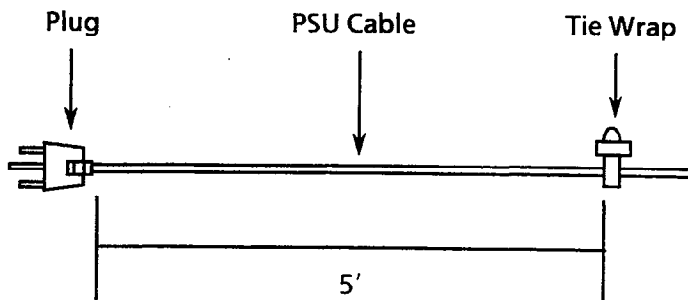

Figure 3-30 Securing the PSU Cable Using a Tie Wrap
2. Attach a tie wrap (locally provided) 5 feet from the plug. Refer to Figure 3-30 - Securing the PSU Cable Using a Tie Wrap.